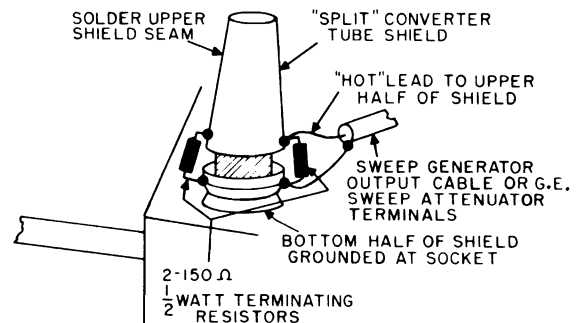

FIGURE 5. I-F SWEEP JIG
2. Connect sweep generator to capacity type jig shown in figure 5. If General Electric sweep equipment is used, the indicated resistors should be 470,000 ohms each or may be omitted.